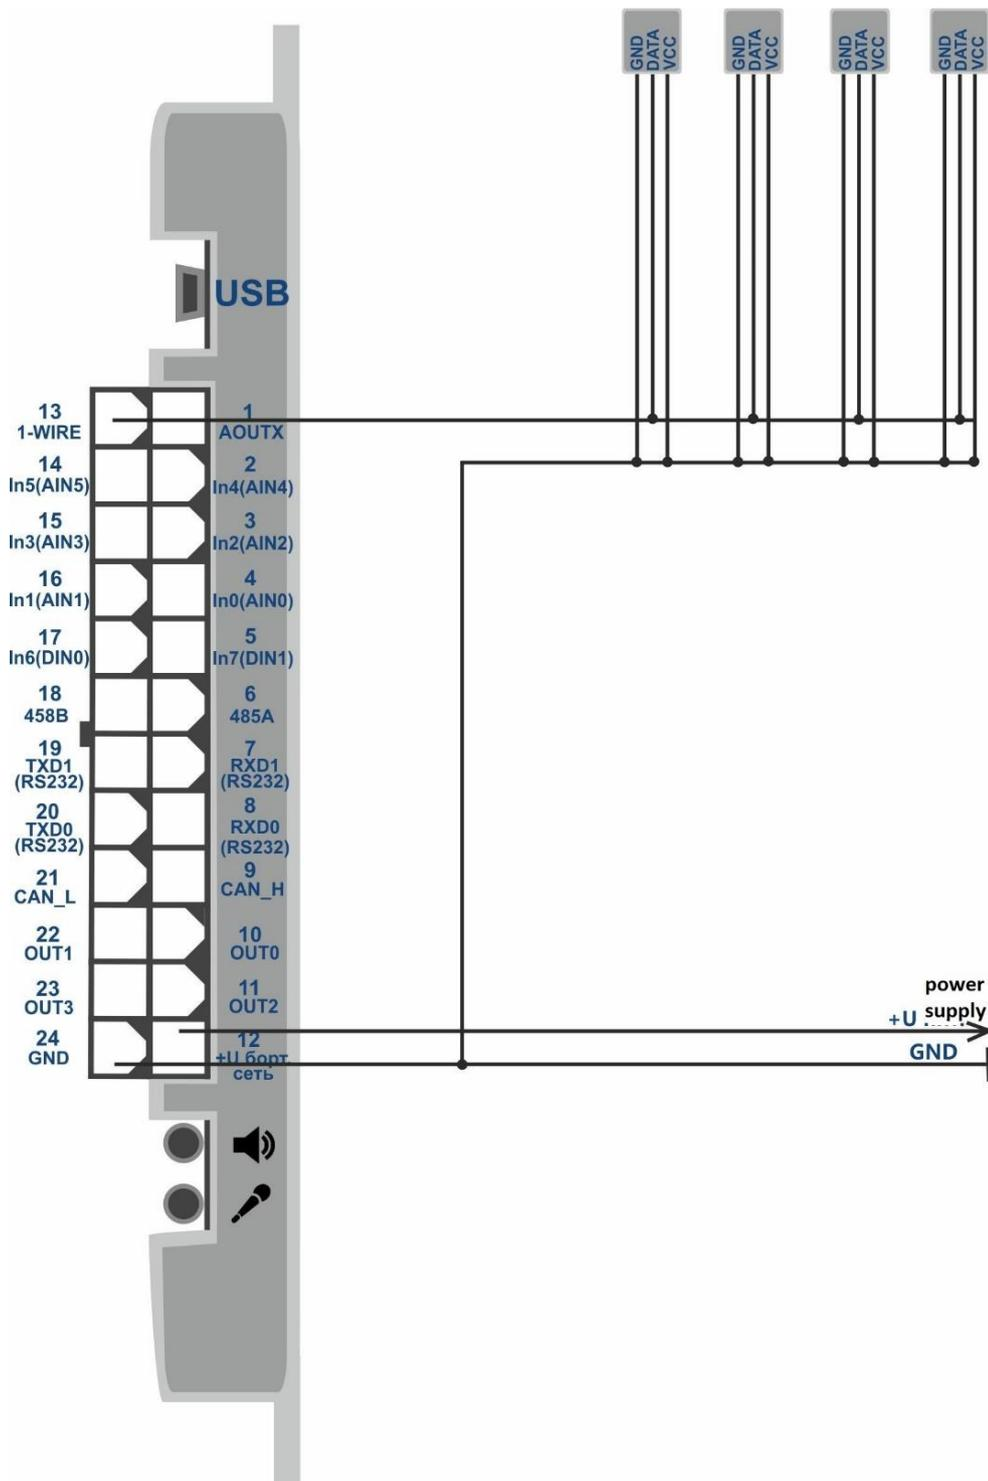

Figure 15 – 1-Wire temperature sensors connection (12 +U vehicle electrical system)
- connect the temperature sensors to the 1-Wire bus in accordance with the diagram in Figure 15;